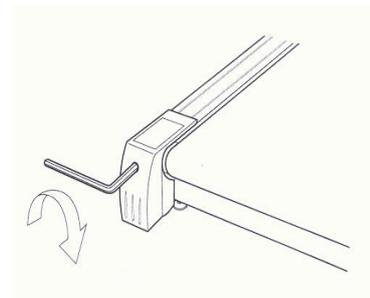

Figure 1
**1. Running belt has shifted to the left side. (Figure 1 - Adjusting the belt to right side)**